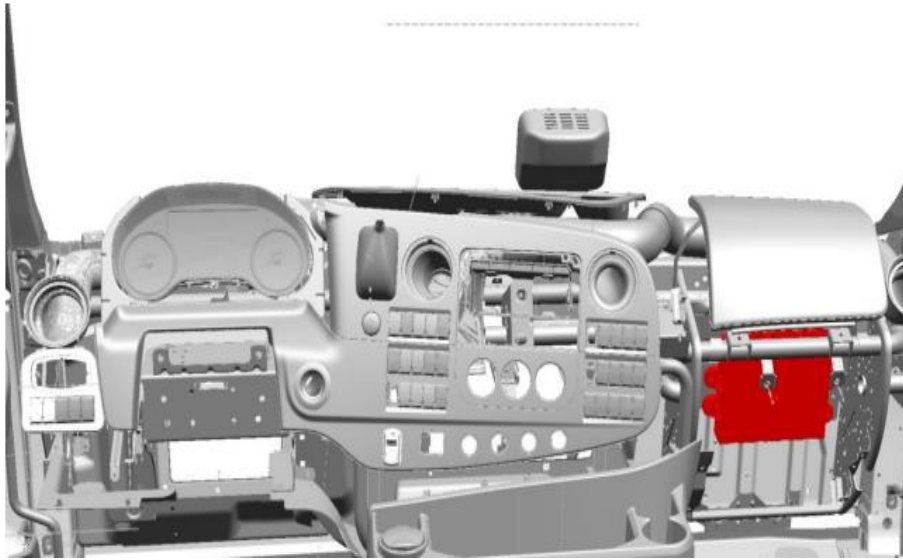
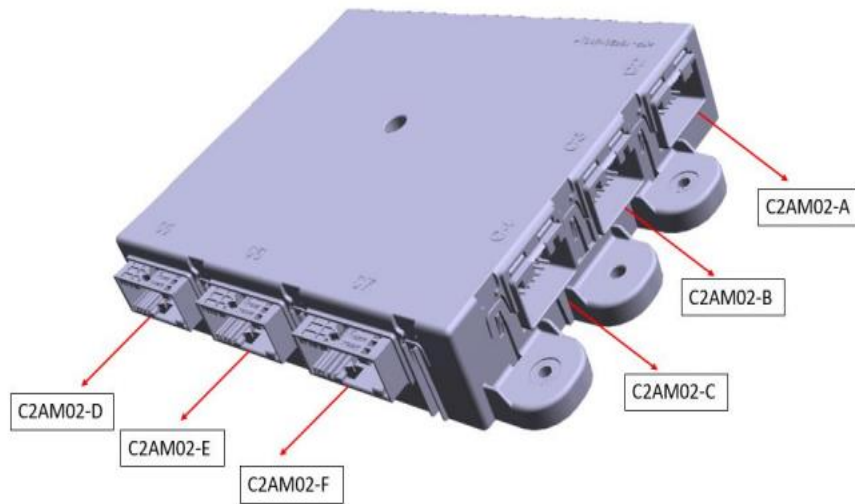

Figure 3: BCM Location in Vehicle
Figure 4: BCM Connectors
- 2) Access the BCM inside the cabin by following the fuse box and glove compartment removal instructions specified in TGB13. The BCM's location is shown in **Figure 3** and BCM connectors are shown in **Figure 4**.
- 2) Access the BCM inside the cabin by following the fuse box and glove compartment removal instructions specified in TGB13. The BCM's location is shown in **Figure 3** and BCM connectors are shown in **Figure 4**